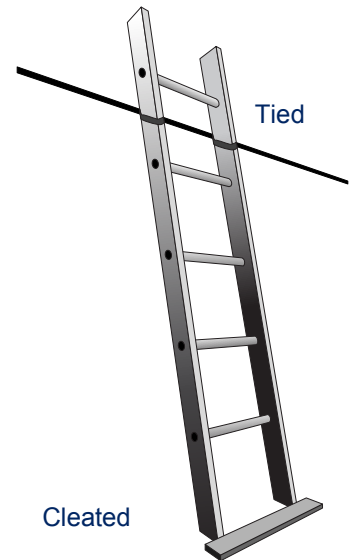

Figure 2.
- On solid wood decks and landings, nail down a cleat to keep the base of the ladder from sliding. (See Figure 2.)
- Tie off all ladders, but particularly those being used on slippery surfaces (e.g., metal sheet or plate decking; oil, grease, ice, or water on the surface), or when the support is soft or flexible (e.g., earth, planking, plywood). This can be done by securing the ladder near the top with rope or wire ties. (See Figure 2.)